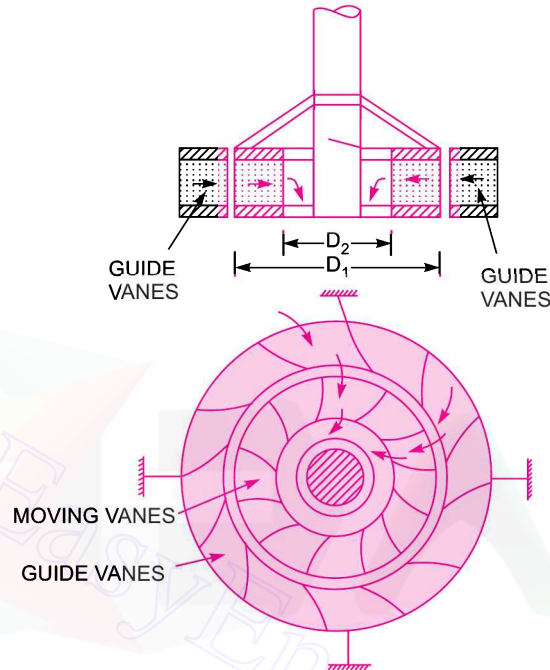

Fig. 18.11 Inward radial flow turbine.
**18.7.2 Inward Radial Flow Turbine.** Fig. 18.11 shows inward radial flow turbine, in which case the water from the casing enters the stationary guiding wheel. The guiding wheel consists of guide vanes which direct the water to enter the runner which consists of moving vanes. The water flows over the moving vanes in the inward radial direction and is discharged at the inner diameter of the runner. The outer diameter of the runner is the inlet and the inner diameter is the outlet.